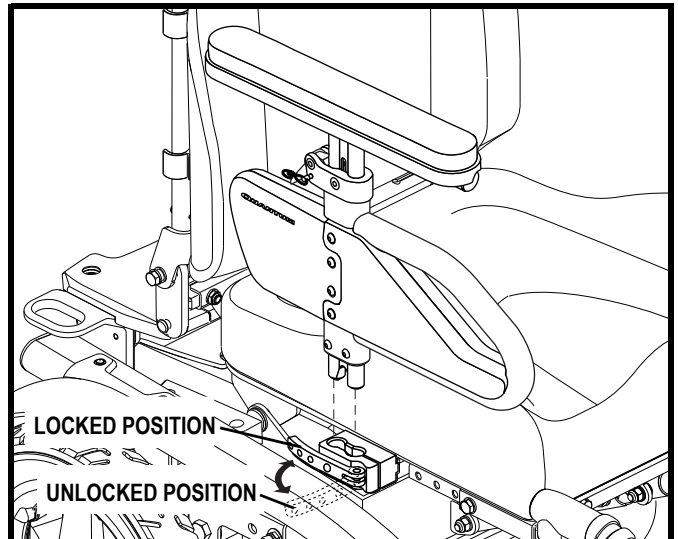

Figure 16. Armrest Removal/Installation
1. Rotate the armrest lock lever forward. See figure 16.
1. Place the armrest assembly into the armrest lock. See figure 16.